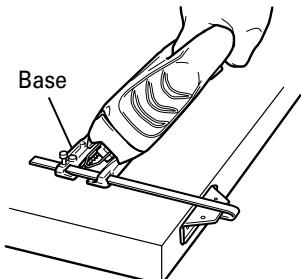

Fig. 21
- The base can be swiveled to both sides by up to 45° for angular cutting. (Fig. 21)